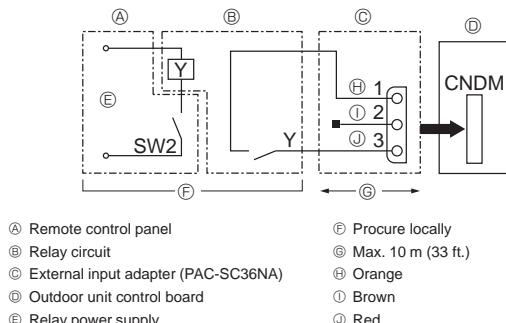

Fig. 10-2
① Complete the circuit as shown when using the external input adapter (PAC-SC36NA). (Option)
10.2. Demand function (on-site modification) (Fig. 10-2)